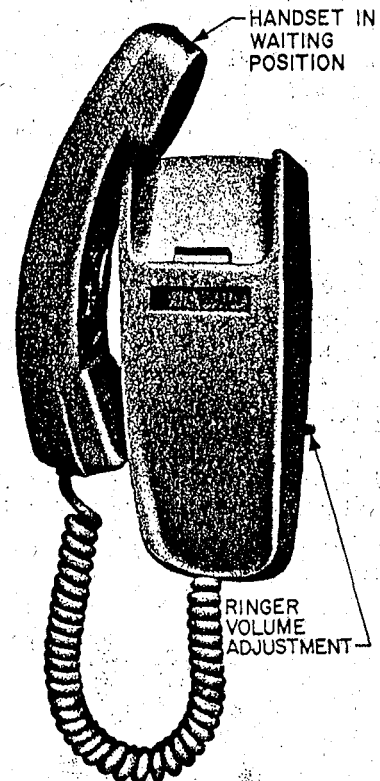

Fig. 1 - Dial-in-Handset
2.01 The F-56093 set is a small common-battery telephone for wall use. (Fig. 1)
4.07 An F-55901 ringer is in the set. A volume control lever extends beyond the base (Fig. 1). For ringer cutoff, remove small stop screw located on ringer frame (Fig. 5). Some sets are equipped with an earlier type ringer. In these cases, it is necessary to first remove ringer in order to remove the stop screw for ringer cutoff.